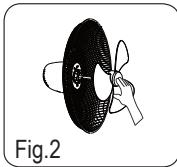

Fig.2
4. Insert the fan blade on the motor fan shaft, and to ensure that the spindle is mounted in the groove of the fan blade. Turn the spinner counterclockwise to tighten the fan blade. (Fig. 2)